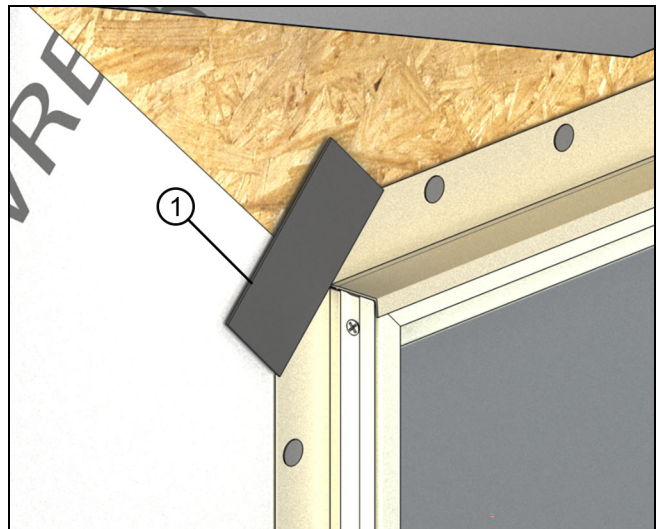

Figure 36
1. On units that use nailing fin, apply a 2" x 4" strip of flashing material at 45 degrees to the corner, bridging the gap between the nailing fin. Do this at all 4 corners. See Figure 36.